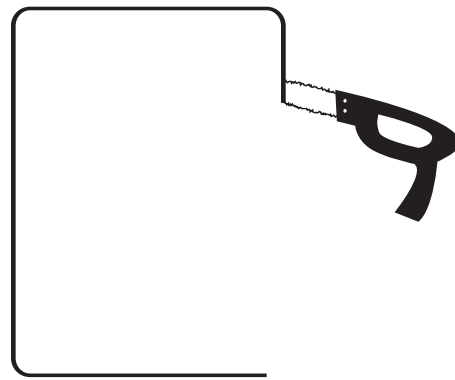

Figure 2
4. Carefully cut the hole with the appropriate cutting tool for your wall material. Start the hole by drilling a hole on the inside of the template line (with the drill bit touching the line). Use this hole to insert your saw or knife and begin cutting. [Figure 2]